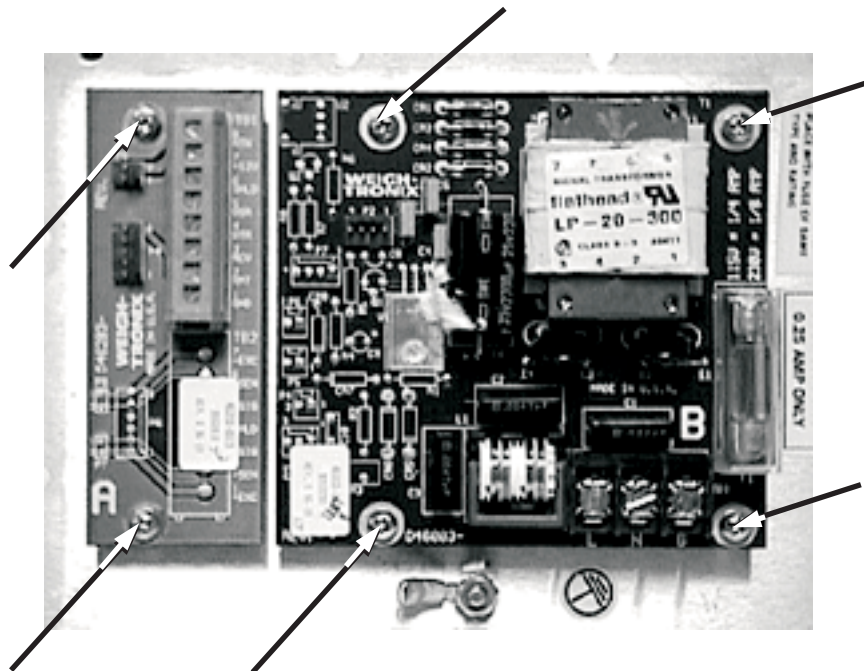

Figure 13
7. There are two boards attached to the back of the indicator. The one on the left in Figure 13 is the RS-232 terminal block. The one on the right is the power supply board. Remove these by removing the screws pointed out by the arrows.